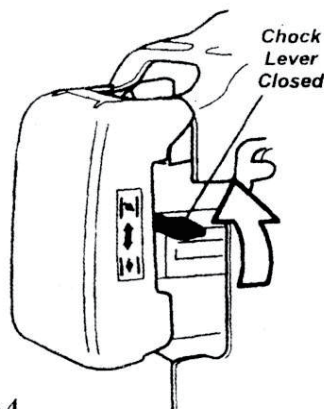

Figure 4
4. Choke the engine by moving the choke lever up to the "closed" position. See Figure 4.